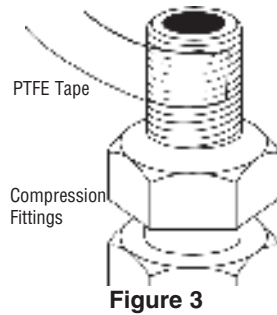

Figure 3
3. Wrap a 3" (7.6 cm) long piece of PTFE tape to the right (clockwise) around the 3/8" MNTP threads of the fittings. Wrap tightly so that it conforms to the threads of the fitting and overlaps about 1/2". (Figure 3) **Do not wrap 3/8" or 1/2" compression threads with tape.**